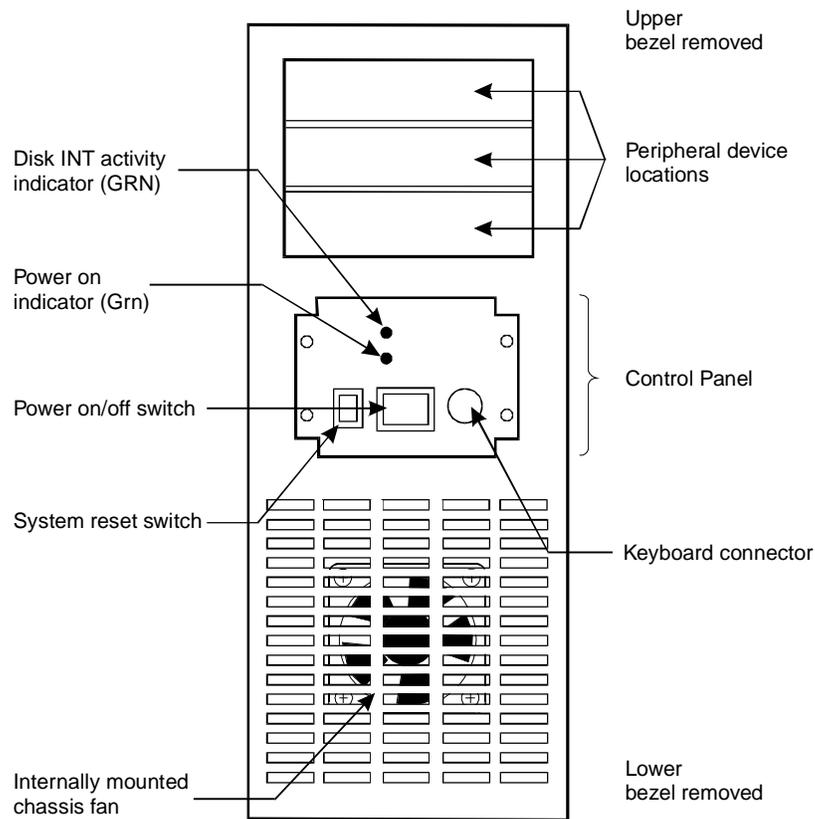

Figure 3-3. Front View of the MAP/40 or 40s
1. Locate the tape drive on the front of the MAP/40 or 40s (Figure 3-3).
1. Locate the floppy disk drive on the front of the MAP/40 or 40s (Figure 3-3).